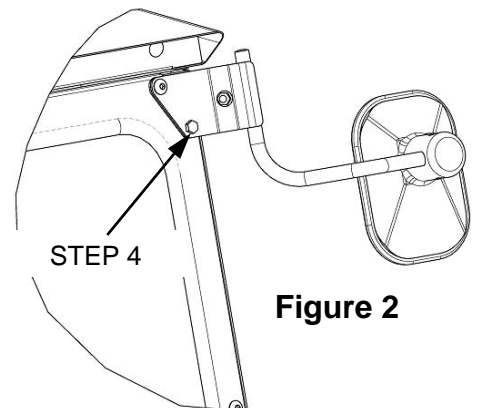

Figure 2
2. Remove (1) 5/16" x 2.00" button head bolt.
4. Install (1) 5/16" x 2.25" long hex head bolt and (1) 5/16" flange nut. Note: If front lights are to be installed, 2.50" long button head bolts may be needed instead of 2.25" long hex head bolts. See Figure 2.
5. Install (1) 5/16" x 3/4" button head bolt and (1) 5/16" flange nut.
6. Insert LH mirror tube into LH inner and outer mount brackets and secure using (1) 5/16" x 3/4" button head bolt and (1) 5/16" flange nut.
7. Mount (1) mirror head onto LH mirror arm and tighten.